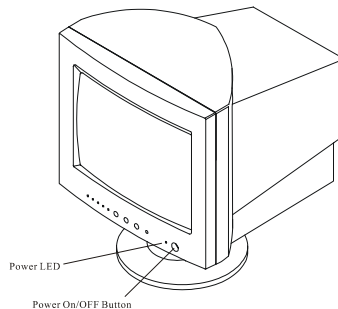

Figure 4: ON/OFF Power Switch
- Locate the ON/OFF power switch. See Figure 4.